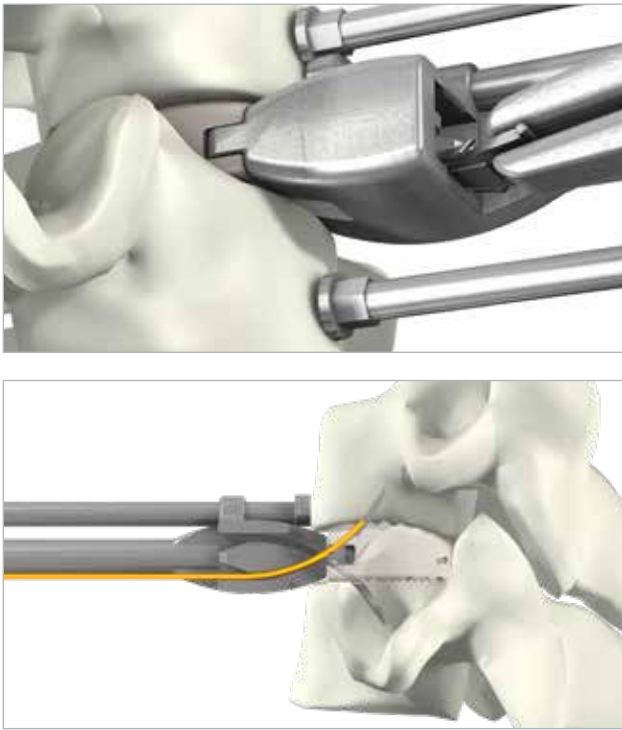

Figure 16
- Confirm that the knob on end of implant holder is fully tightened. Insert the second plate into the caudal slot of the implant holder (or the cranial slot if the first plate was inserted into the caudal slot) (Figure 16).